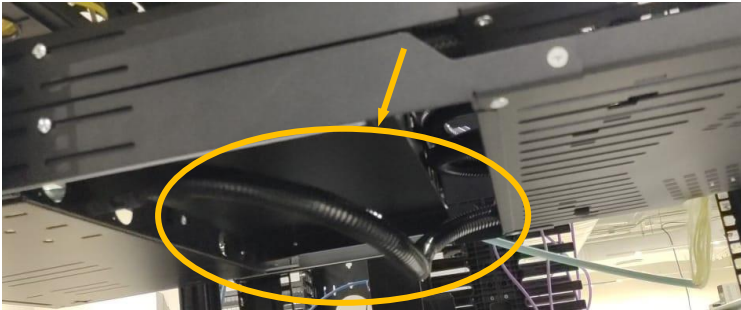

Fig.3R
- **Note:** If there are no other enclosures stacked below the MFE Enclosure, there are chances of the conduit tube falling between the gap (of Back tray and MFE sliding tray) like shown below (Fig. 3R to 3T), while sliding the MFE base tray due to winded condition of conduit tube and no support. In such case, correct the condition by turning the conduit tube at the gland entry points, so that it stays above the tray.